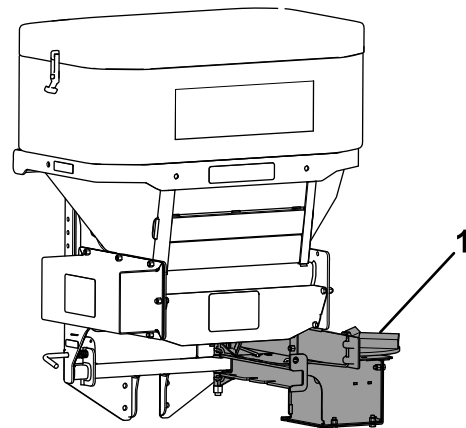

Figure 26
4. Swing the spinner assembly free from the spreader (Figure 26).